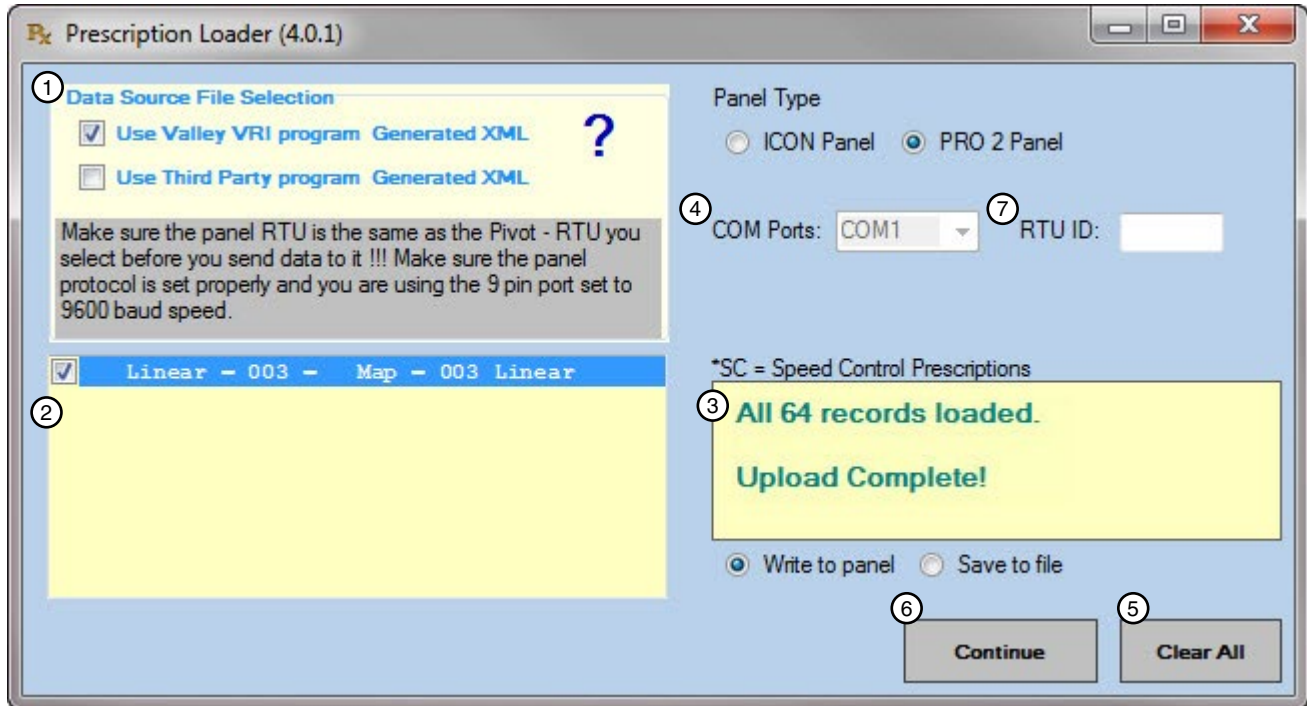

Figure 42-1 1. Data Transmission Status
- If you selected **Write to panel** and clicked **Continue**, the file is sent to the control panel and the Prescription Loader screen is updated with the status of the data transmission. See Figure 42-1.